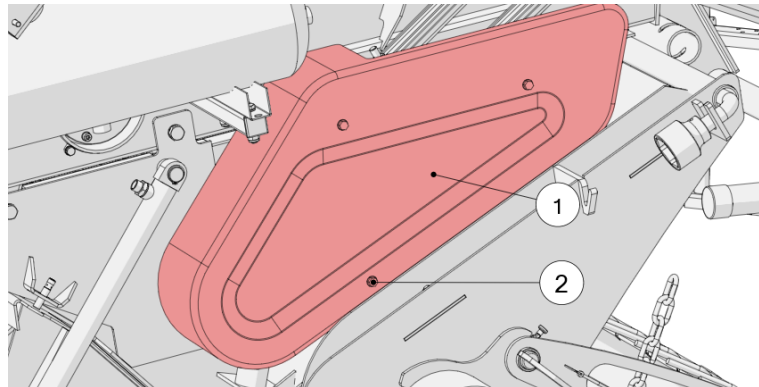

Figure 57. The right guard of the rotor
- Remove the right-hand guard of the rotor (1) by undoing the bolts (2), as shown in Figure 57;